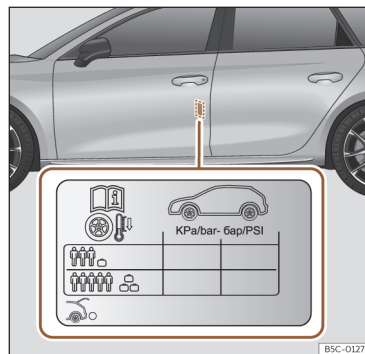

Fig. 237 Location of the tyre pressure sticker.
- Adjust tyre pressure to the load being carried by the vehicle >>> **Fig. 237**.
The values of the tyre pressure are shown on the sticker label located on the rear frame of the front left door >>> **Fig. 237.**
The tyre pressure must be adjusted according to the load the vehicle is carrying. If the vehicle is going to be fully loaded, increase the tyre pressure to the maximum load value shown on the sticker label >>> **Fig. 237.**
In the case of a minimised temporary spare wheel (125/70 R16 or 125/70 R18) inflate to a pressure of 4.2 bar as indicated on the tyre pressure label >>> **Fig. 237.**
- The driver is responsible for ensuring that all of the vehicle tyres are correctly inflated to the right pressure. The recommended tyre pressure is indicated on the label >>> **Fig. 237.**
- Tyre pressure should be that indicated on the label when the tyres are cold at all times >>> **Fig. 237.**